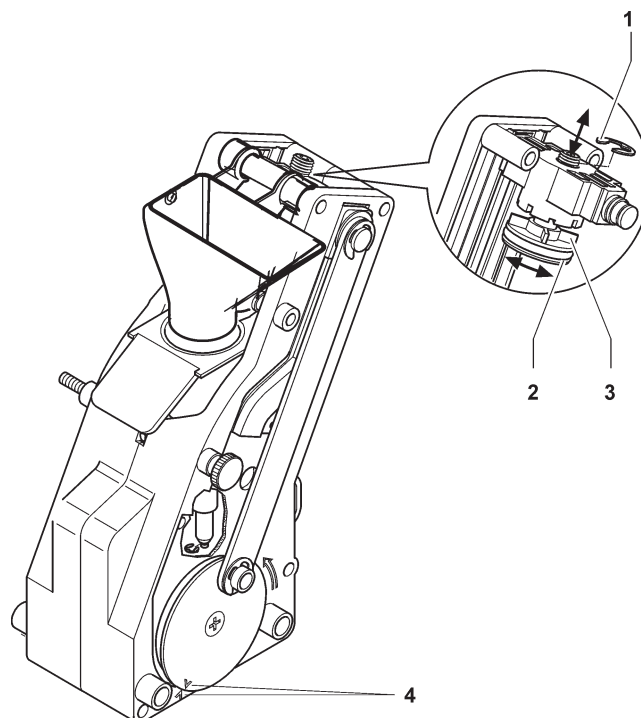

Fig. 19
To change the piston position (see Fig. 19) do as follows:
**To refit the coffee unit, pay special attention to the piston position. Reference notches on the external disk and on the unit case should match (see Fig. 19).**